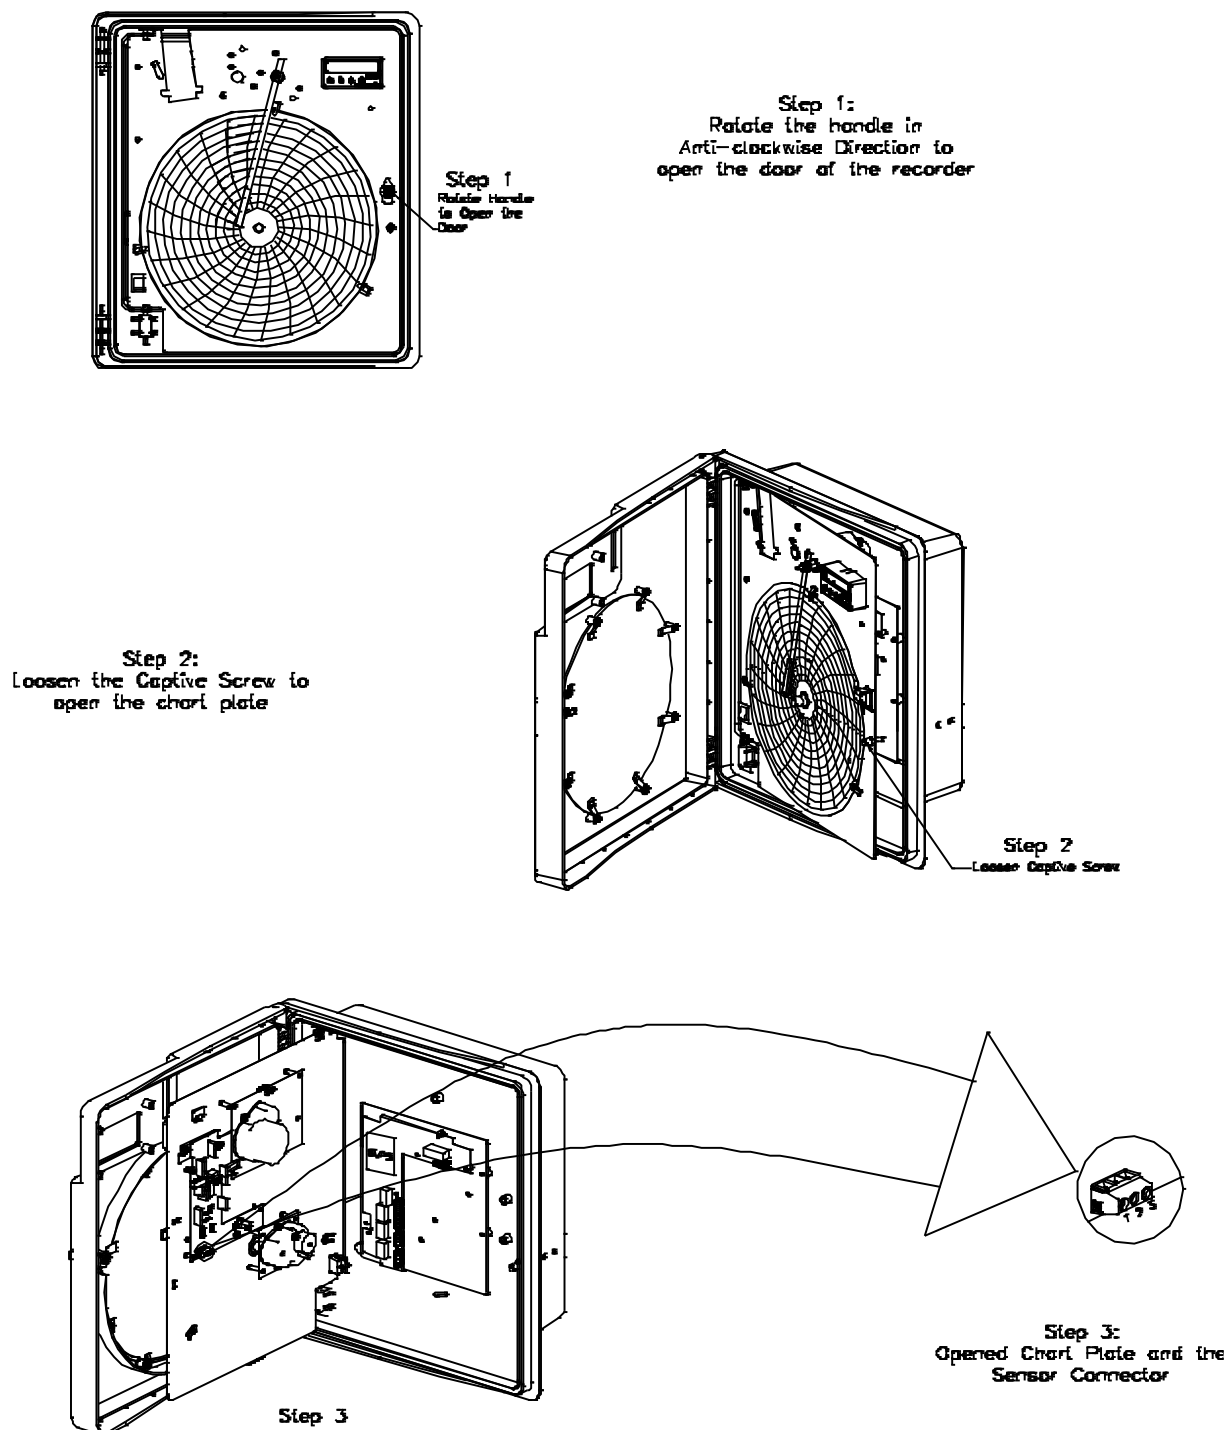
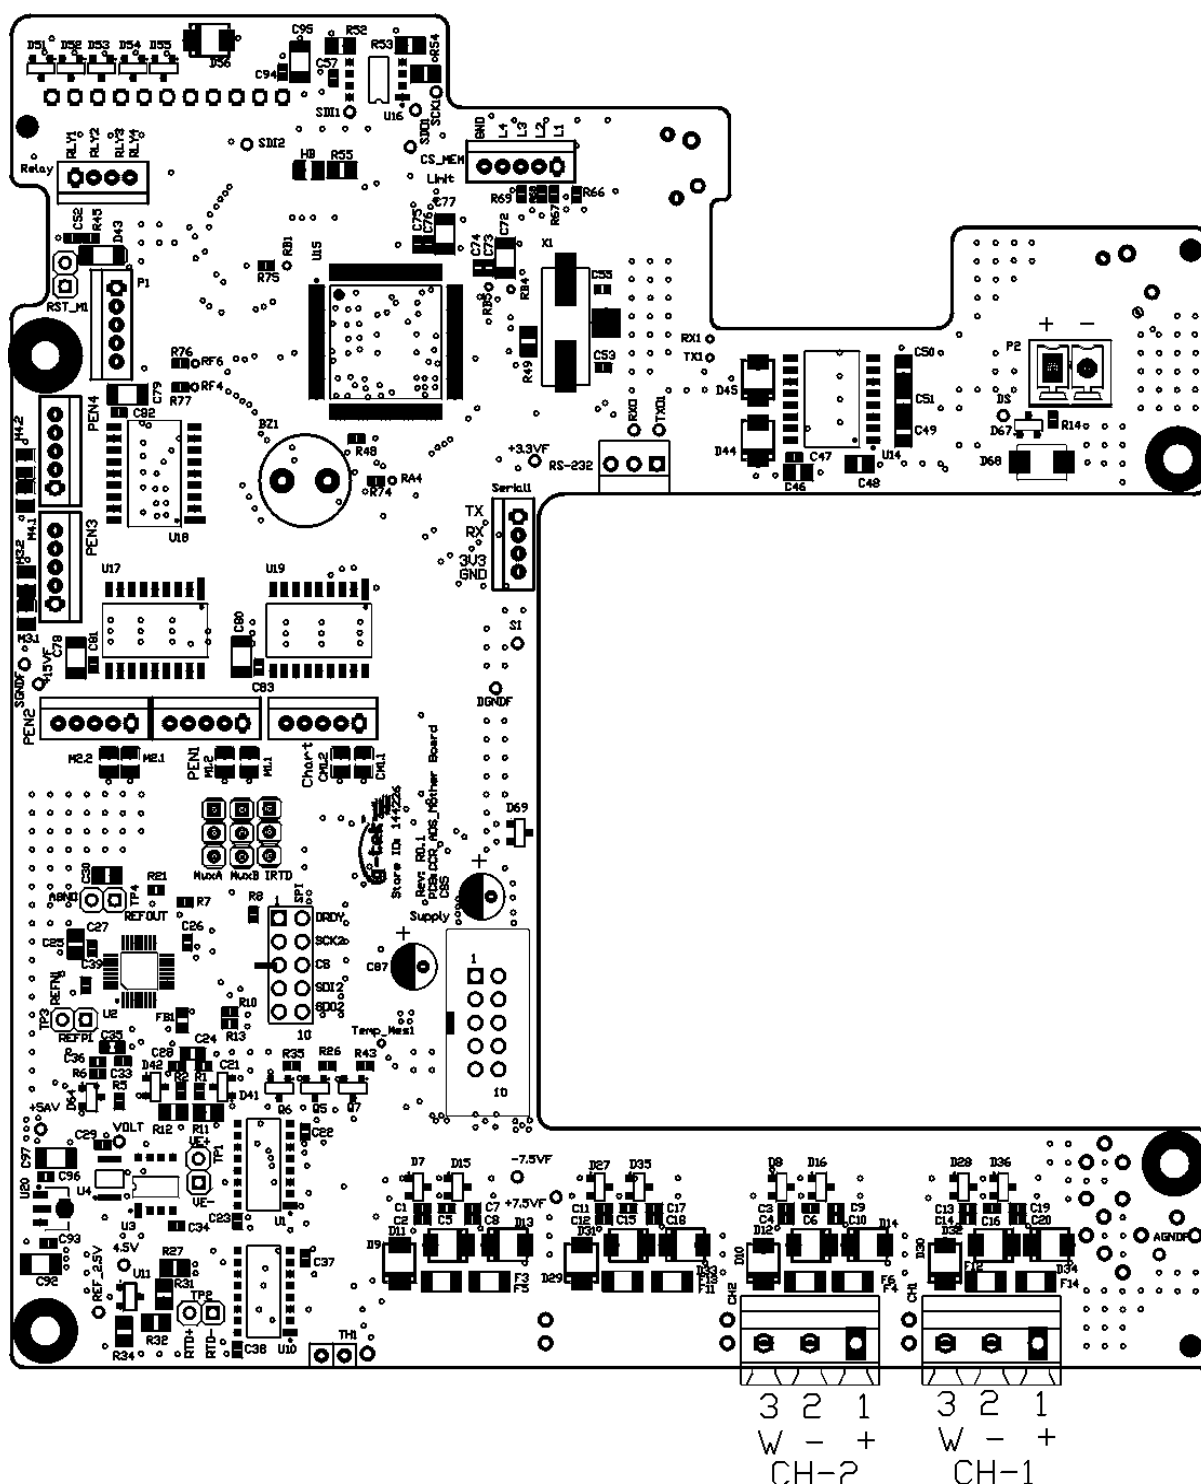

Figure 8 - Sensor Wiring
Figure 9 - Motherboard PCB
6. All local electrical codes of practice must be followed when installing any instrumentation. Please refer to the back panel of recorder to know the type of sensor input. For sensor wiring follow the steps mentioned below in figure 8. The Sensor PCB and the Sensor connector are shown in figure 9.
1. Pin No 1,2,3 are shown in the above figure 9.